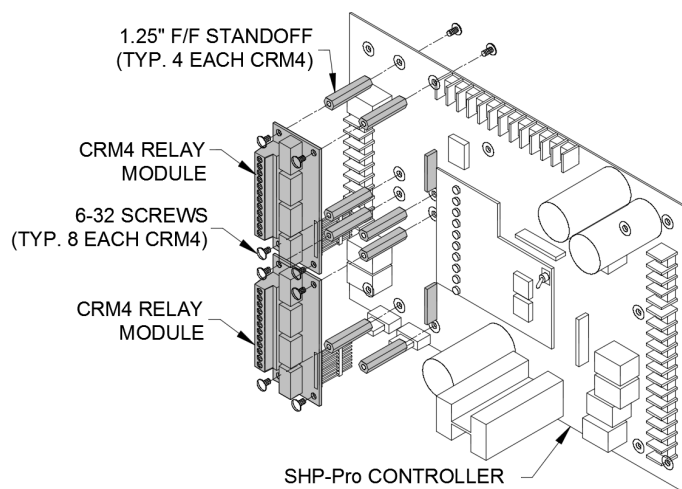

Figure 30 CRM4 Module Mounting
Step 1 - Secure the four F/F hex standoffs onto the main control board with the screws provided, as shown in Figure 30.